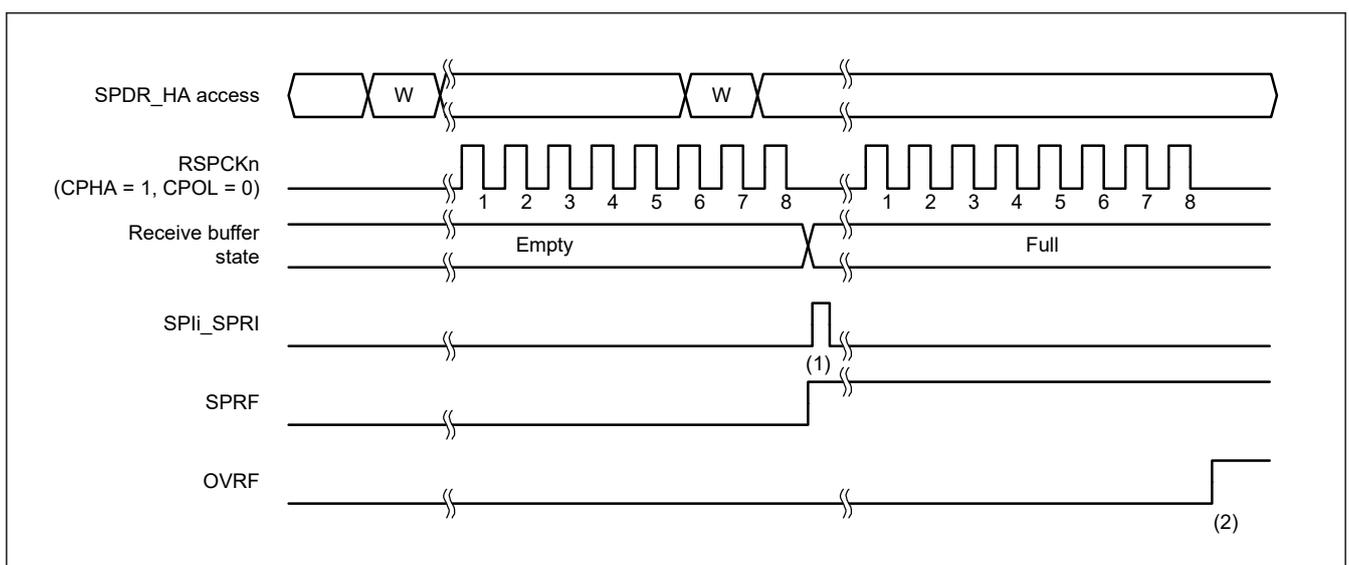
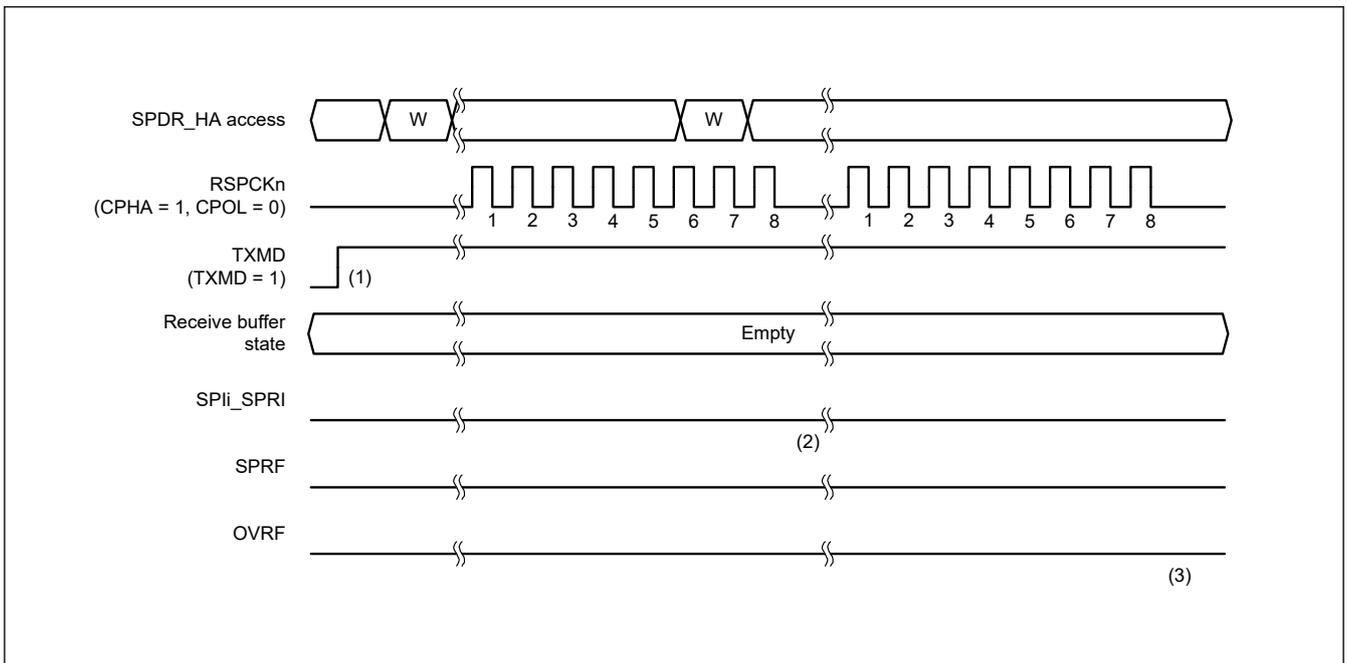

Figure 27.23 Operation example when SPCR.TXMD = 0
Figure 27.24 Operation example when SPCR.TXMD = 1
Full-duplex synchronous serial communications or transmit operations can only be selected in the Communications Operating Mode Select bit (SPCR.TXMD). The register accesses shown in Figure 27.23 and Figure 27.24 indicate the condition of access to the SPDR/SPDR\_HA register, where W denotes a write cycle.
Figure 27.23 shows an example of operation when the Communications Operating Mode Select bit (SPCR.TXMD) is set to 0. In this example, the SPI performs an 8-bit serial transfer when the SPCMD0.CPHA bit is 1, and the SPCMD0.CPOL bit is 0. The numbers given for RSPCKn in the waveform represent the number of RSPCK cycles, such as the number of transferred bits.
The operation of the flags at timings (1) and (2) in Figure 27.23 is as follows:
Figure 27.24 shows an example of operation when the Communications Operating Mode Select bit (SPCR.TXMD) is set to 1. In this example, the SPI performs an 8-bit serial transfer when the SPCMD0.CPHA bit is 1, and the SPCMD0.CPOL bit is 0. The numbers given for RSPCKn in the waveform represent the number of RSPCK cycles, such as the number of transferred bits.
The operation of the flags at timings (1) to (3) in Figure 27.24 is as follows: